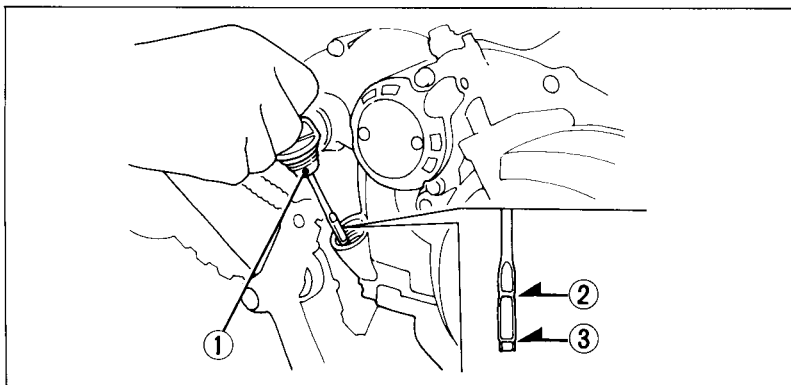

Fig. 2-24
The oil filler cap/dipstick (Fig. 2-24), on the right crankcase cover, is used to measure the oil level. The oil should be checked each day before operating the TRX300FW and maintained between the upper level mark (2) and the lower level mark (3).